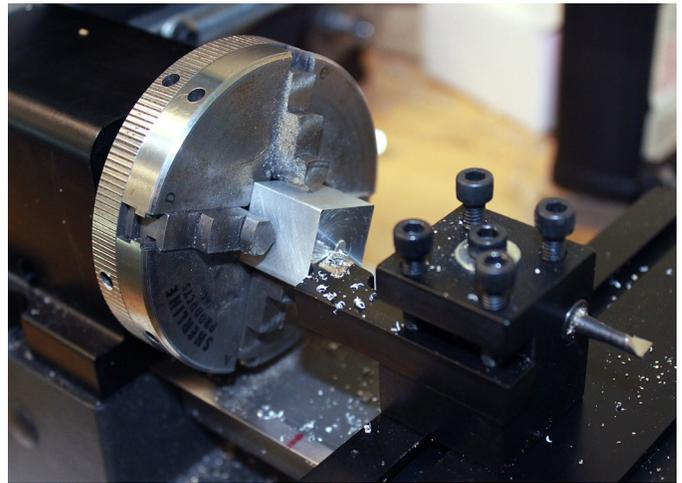

FIGURE 1—Facing the first saw-cut surface.
**Note:** these instructions are written with the assumption that you have already machined your part into a  $\frac{3}{4}$ " square. If you don't have a Sherline Mill to do this operation on, you can hold the stock in your 4-jaw chuck and face opposite sides until your part measures  $\frac{3}{4}$ ". Since you have  $\frac{3}{4}$ " square stock, you will only need to machine the saw cut ends of the stock to size. Use the jaws to hold the part by the extruded surfaces. Push the stock into the chuck "lightly" so the jaws can hold the part square. Turn the spindle on to check for excessive runout. Face the first end just enough to clean up the surface. (See Figure 1.) Now the faced end of the stock and the extruded sides of the material should be perpendicular. Now flip the part around and push the finished face of the stock into the face of the chuck with more pressure. This will locate the stock against the chuck and now you can face the other side to the  $\frac{3}{4}$ " finish dimension.